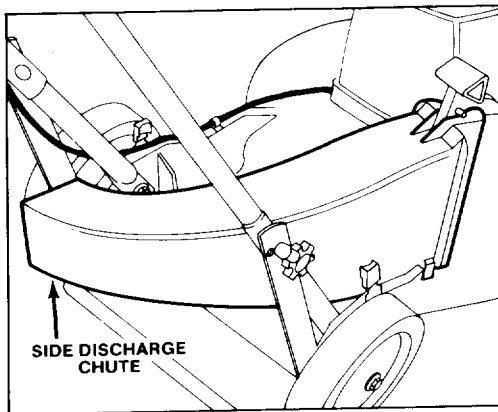

Figure 7
**SIDE DISCHARGE**—Disperse clippings with optional, rear-mounted side discharge chute which installs in seconds (Fig. 7).